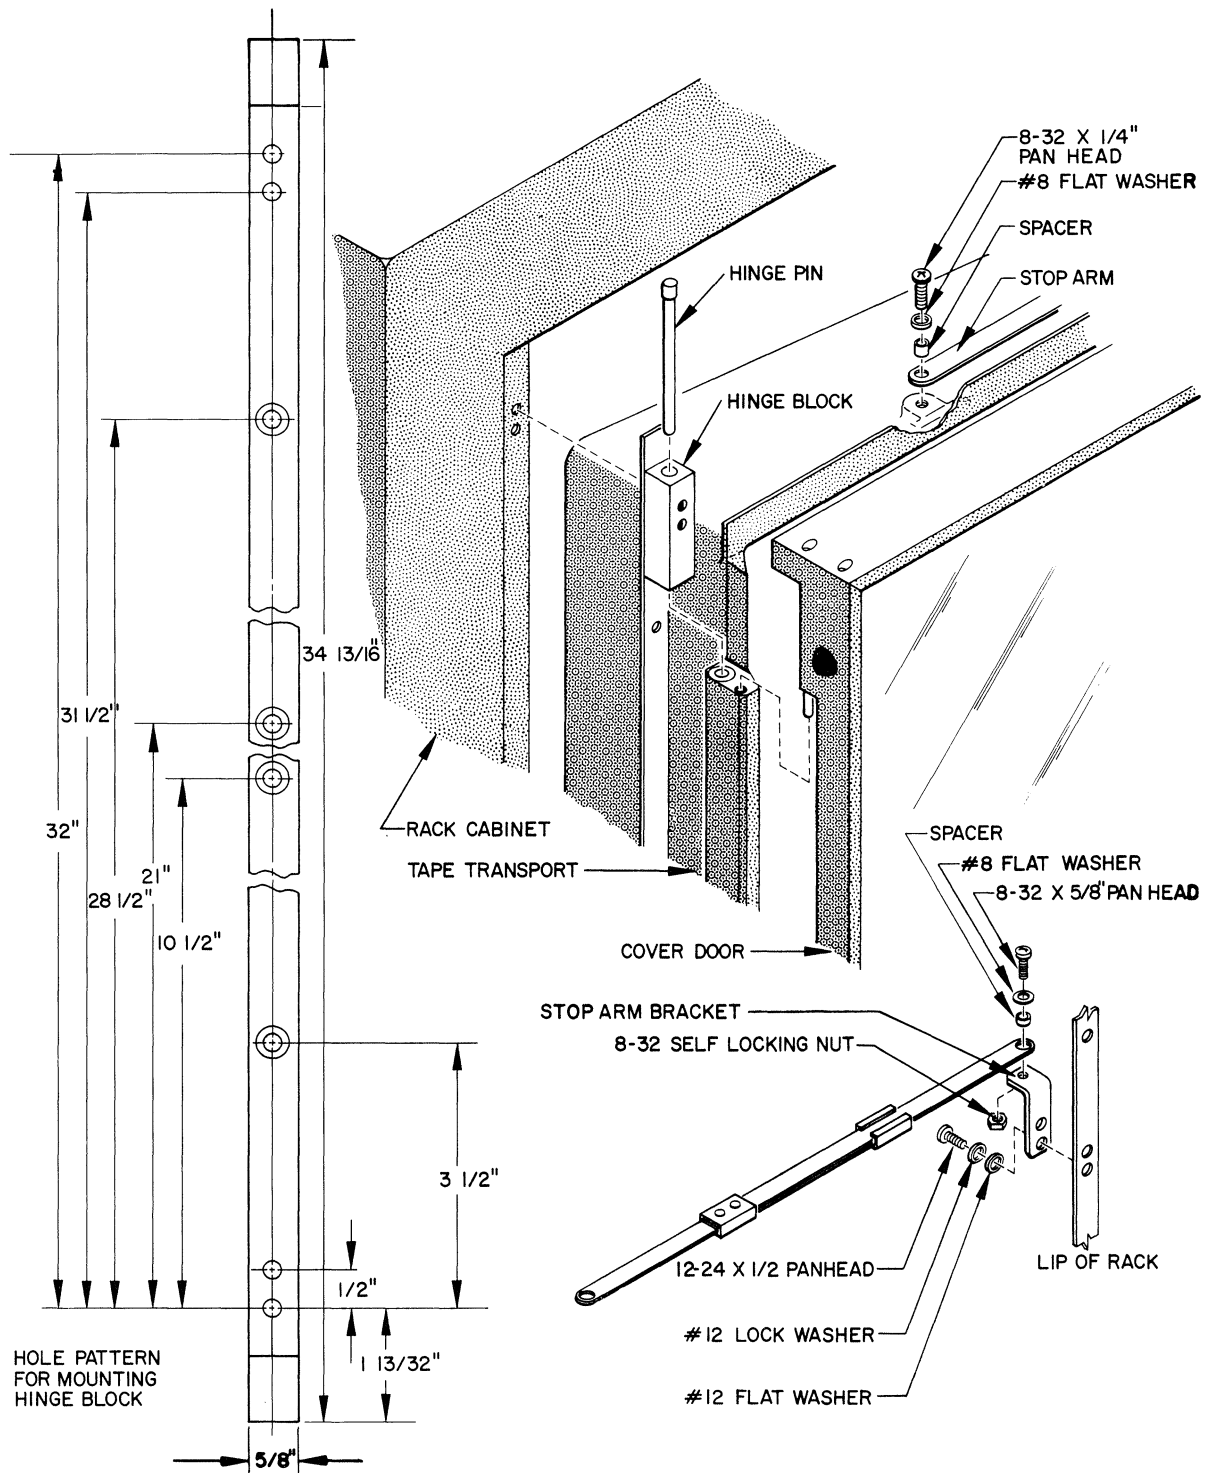

Figure 2-2. Tape Transport Mounting
Step 1: Mount the hinge block strip to the left side rail of the rack using the 8½-inch flat head screws provided. A hole pattern for the hinge block is shown in Figure 2-2.
Step 3: Lift the transport into position with the hinge portion of the frame between the blocks of the hinge block strip. (See Figure 2-2.)
Step 11: Assemble the two stop arms provided with the tape transport as shown in Figure 2-2. Fasten the assembly to the bracket attached to Step 10 using the 8-32 by 5/8-inch screw, #8 flat washer, spacer, and #8 self-locking nut as shown in Figure 2-2. Fasten the other end of the assembly to the top of the transport using the 8-32 by 1/4-inch screw, #8 flat washer, and spacer as shown in Figure 2-2.